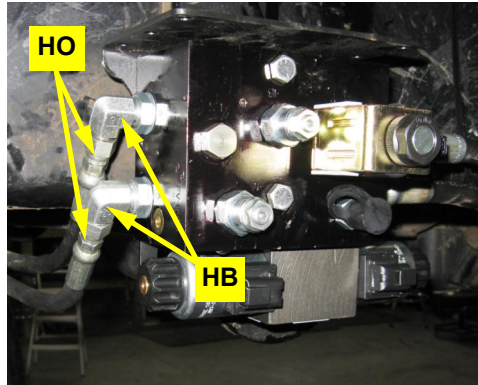

Figure 7b: Steering hoses connected at steering block
- b. Connect steering hoses **HO** to adapter fittings **HB** in the **A** and **B** ports of the hydraulic steering block (Figure 7b).